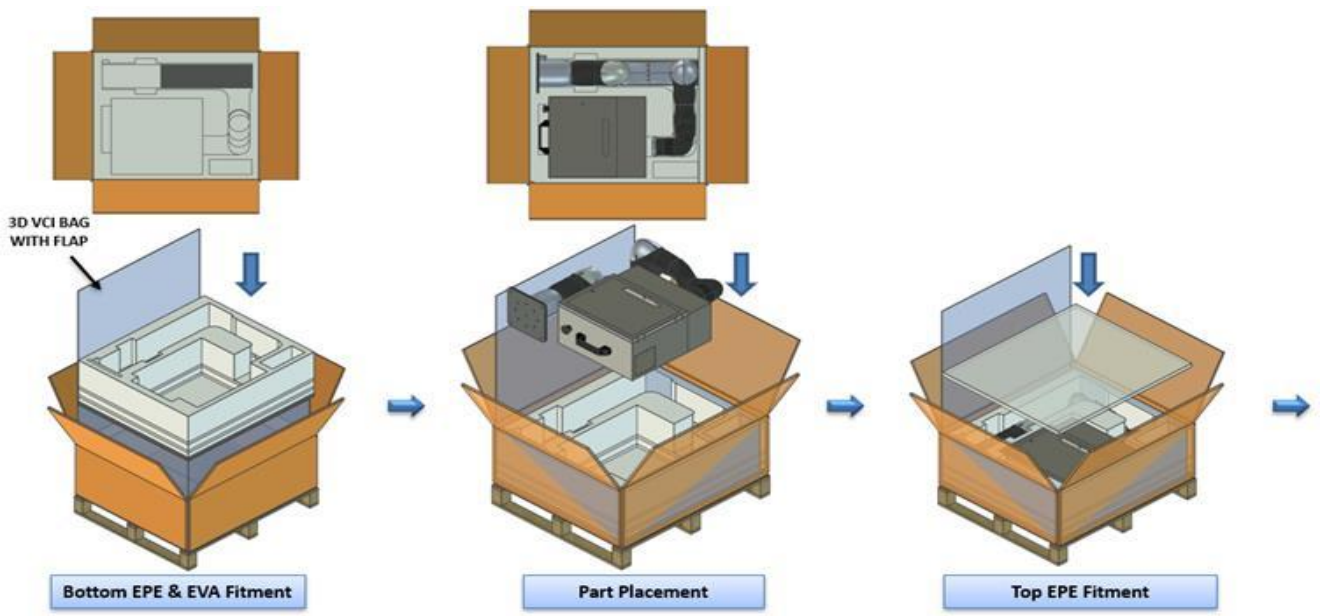

Figure 11: Packing Illustration
- Refer to *Figure 11: Packing* to understand the packing details